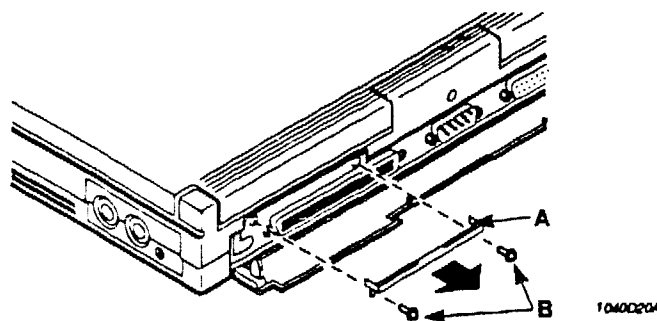

Figure 4-9. Removing the Screws and the RAM Card Slot Cover
4. Remove the two screws (Figure 4-9, B) that secure the RAM card slot cover. Then, remove the slot cover (Figure 4-9, A).
5. Hold the RAM card (Figure 4-9, B) with the side labeled A facing upward. Then, slide the card into the RAM card slot (Figure 4-9, A) until it is firmly seated.